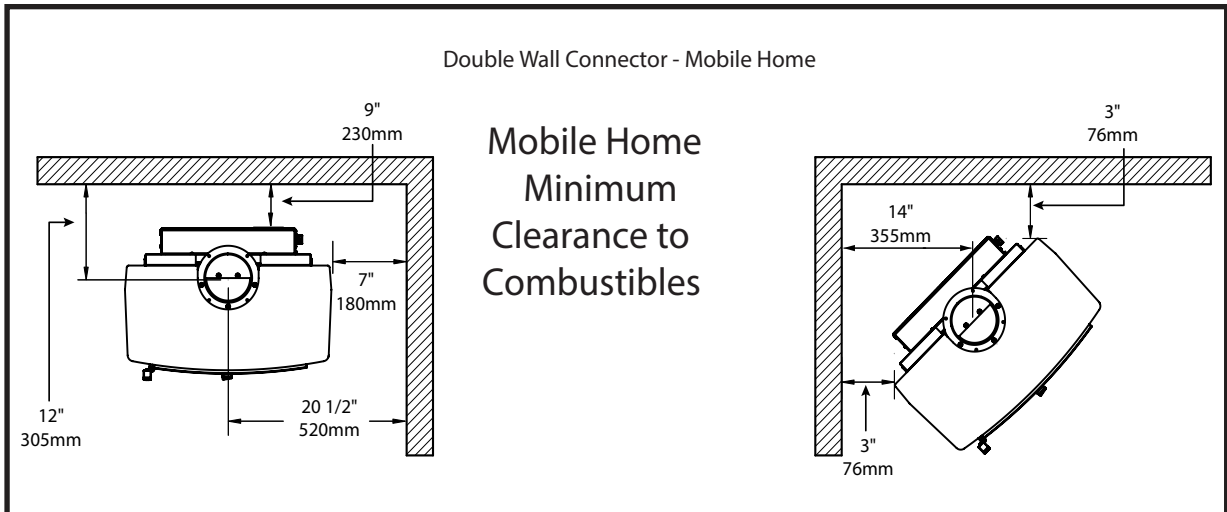

Figure 8: Mobile home clearances.
2. Clearances to combustible surfaces and materials using single-wall connector are shown in Figure 8. Clearances may be reduced with various heat insulating materials. Consult local fire codes and authorities for approval.
Clearances to combustible surfaces and materials are shown in Figure 8 below.